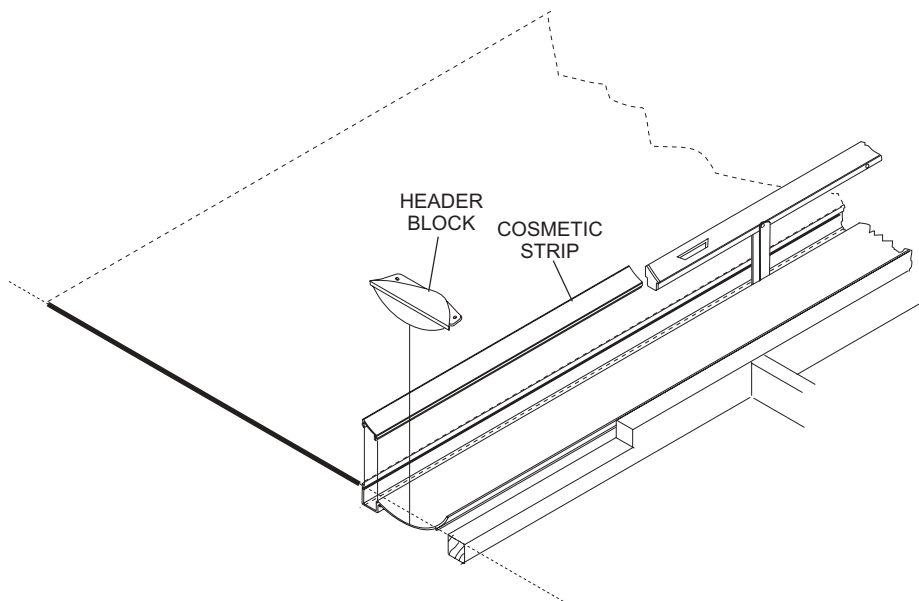

Figure 6
- At the foul line, remove the screws securing the header block to the gutter and remove the header block and cosmetic strip. Set aside for reinstallation later. Refer to *Figure 6*.
- Reinstall the cosmetic strip and transition block at the foul line. Refer to *Figure 6*.